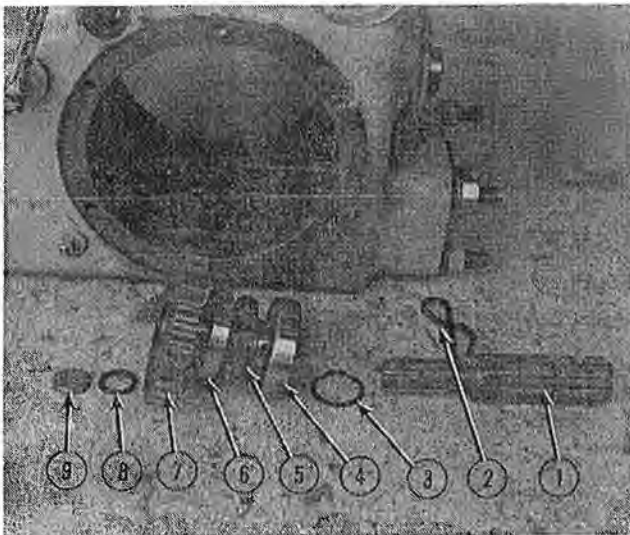

FIG. 9
Fig. 9 identifies parts associated with the SAE 1-3/8" 6-spline PTO shaft.
- (1, Fig. 9) SAE PTO Shaft
- (2, Fig. 9) Retaining Clip
- (3, Fig. 9) Snap Ring
- (4, Fig. 9) Rear Bearing
- (5, Fig. 9) Oil Seal
- (6, Fig. 9) Front Bearing
- (7, Fig. 9) Shaft & Gear Assembly
- (8, Fig. 9) "O" Ring
- (9, Fig. 9) Plug
The spur gear and shaft assembly (6, Fig. 9) can be removed by unclipping the snap ring (3, Fig. 9) from the shaft extending out the rear of the case. Tap the shaft from the rear into the case using a soft brass bar.